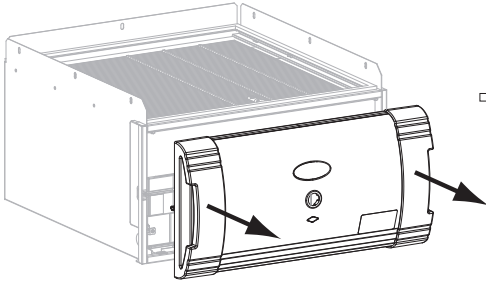
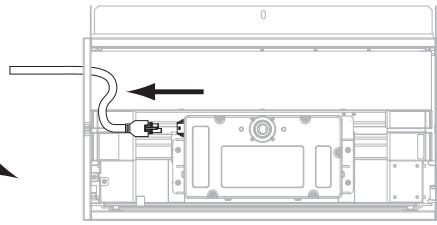

Fig. 1
Fig. 2
- 2: Remove the air purifier door (Fig. 1). Disconnect the power cord and air flow sensor cables from the power supply module (Fig. 2).